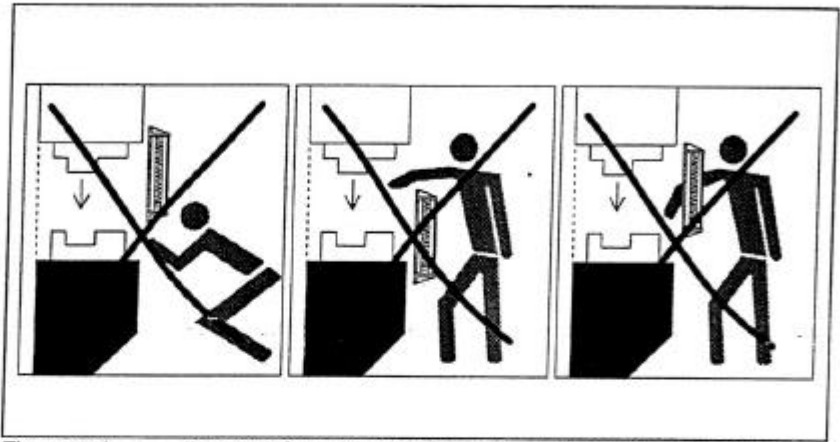

Figure 4-1 Danger of reaching under, over or around the sensing zone
1. The danger point must be reachable only through the sensing zone (Figure 4-1).